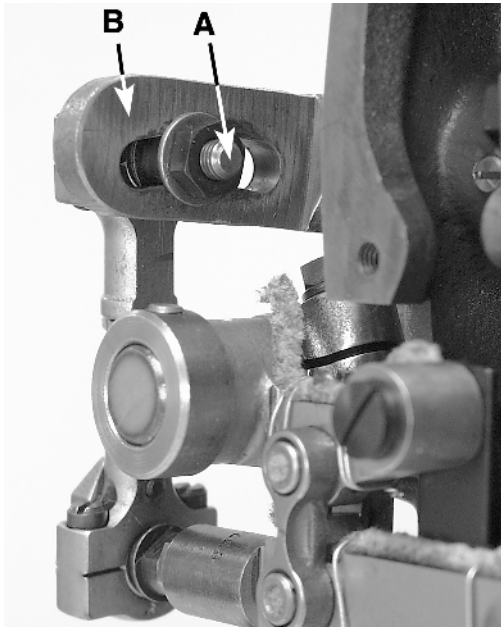

Fig. 7
The bell crank lever ball joint (A, Fig. 7) should be in the center of the upper feed bell crank lever (B). The ball joint may need to be moved slightly to meet sewing conditions.